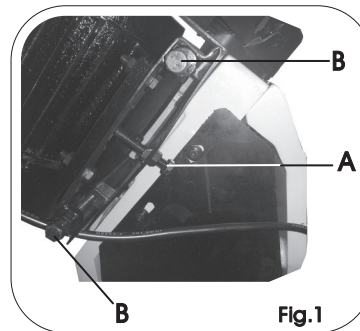

Fig.1
3. Loosen the motor plate lock bolt (Fig.1, A).
4. Loosen the motor slide bolts (Fig.1, B), you should now be able to push the motor inwards to slacken the belt off.